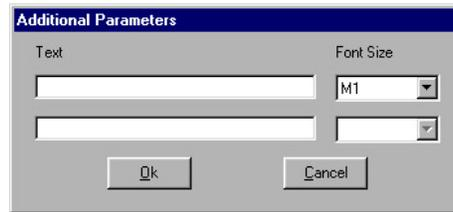

Figure 7-33. Additional Parameters Screen
4. If you have inserted one of the 20 user-defined text fields, the **Additional Parameters** button at the bottom will become available. Clicking on **Additional Parameters** button opens the dialog box shown in Figure 7-33.